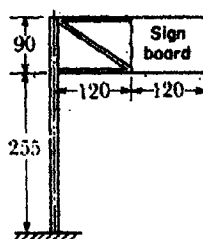

Fig. 6(a)
- 6(a) A hollow steel pipe is to be used as a standard to support a highway road sign as shown in Fig. 6(a). The maximum wind pressure on the face of the board is assumed to be  $250 \text{ kg/m}^2$ . The standard is unsupported laterally and its outside-to-inside diameter ratio is 1.12. The allowable working stress in shear is given as  $\tau_w = 600 \text{ kg/cm}^2$ . Calculate the required outside diameter  $d$  of the pipe.